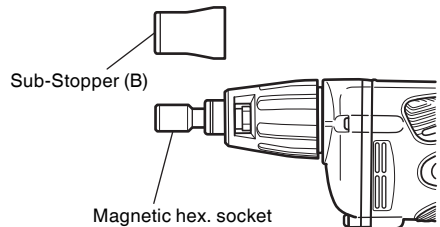

Fig. 6
1. Dismounting the hex-socket (Fig. 6)